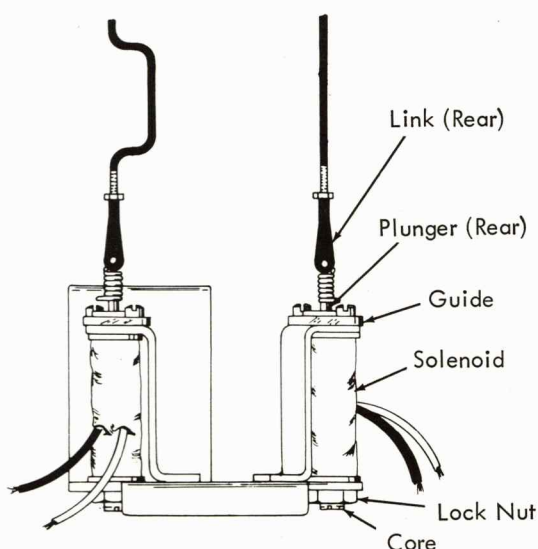

FIGURE 207. Index Solenoid Adjustments
1. Adjust the solenoid core for .020" plunger to core air gap by holding the plunger against the guide, turn in the core until the plunger just begins to rise, back off the core 1/2 turn and tighten the lock nut (Fig. 207).
2. Adjust the rear index selection solenoid link so the air gap on the rear solenoid will be .120" to .130" with the front plunger sealed (Fig. 207).
3. Adjust the front index selection solenoid link so the air gap on the front solenoid will be .120" to .130" with the rear plunger sealed (Fig. 207).